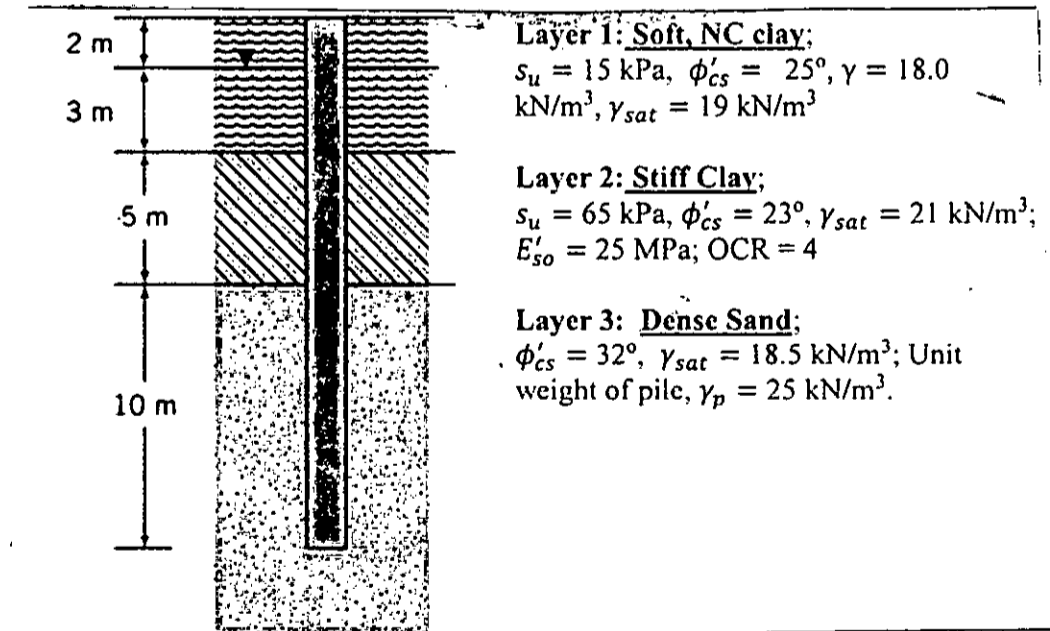

Fig. 7 For Q. No. 8(a)
8. (a) A concrete closed-ended pipe pile, 0.4 m in diameter, is driven 20 m into the soil profile shown in Fig. 7. Groundwater table is at 2 m below the surface, but you can assume that it will rise to the surface. A factor of safety, F_s , of 2 is required. Determine the allowable load: (i) compressional for considering negative skin friction if it appears to exist, (ii) compressional but neglect the situation of existing negative skin friction, and (iii) tensile (i.e., uplift capacity) with $F_s = 2$.